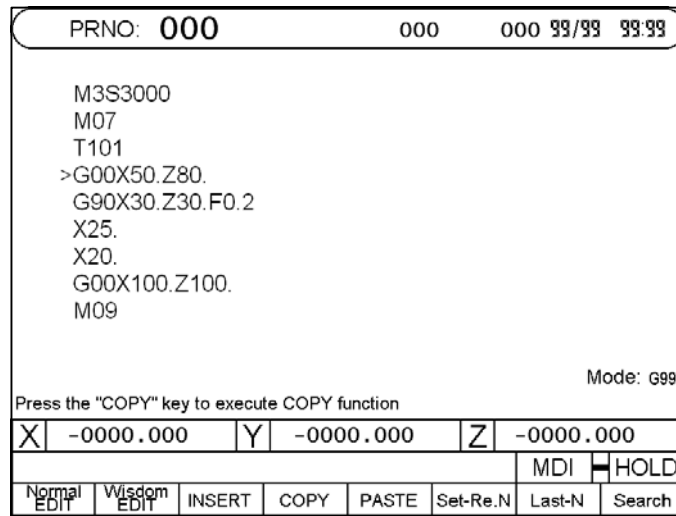

Fig.2-12
3. Move the cursor to the ending position of the block to be copied and then press the “Enter” key to confirm (as per Fig. 2-12).